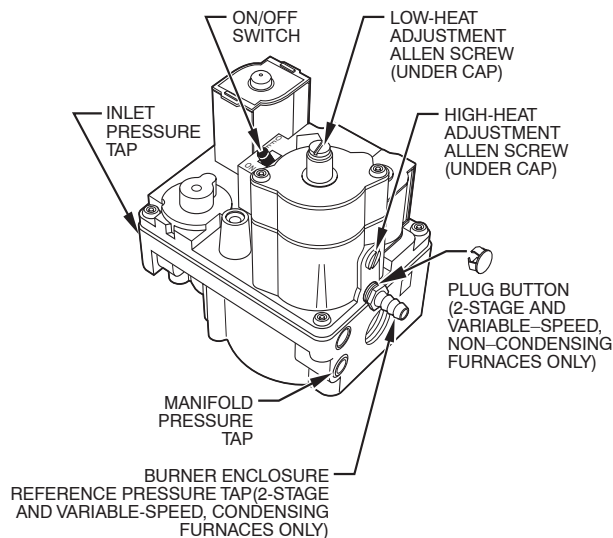

Fig. 27 - Series E Gas Valve
For 2-stage furnaces with a Series E gas valve (see Fig. 27), they DO NOT need to have the regulator springs replaced in the gas valve, but the regulators in the gas valve must be pre-adjusted for propane applications.
For Fig. 27
2. Remove caps that conceal adjustment screws for high- and low-heat stage gas-valve regulators. (See Fig. 27.)